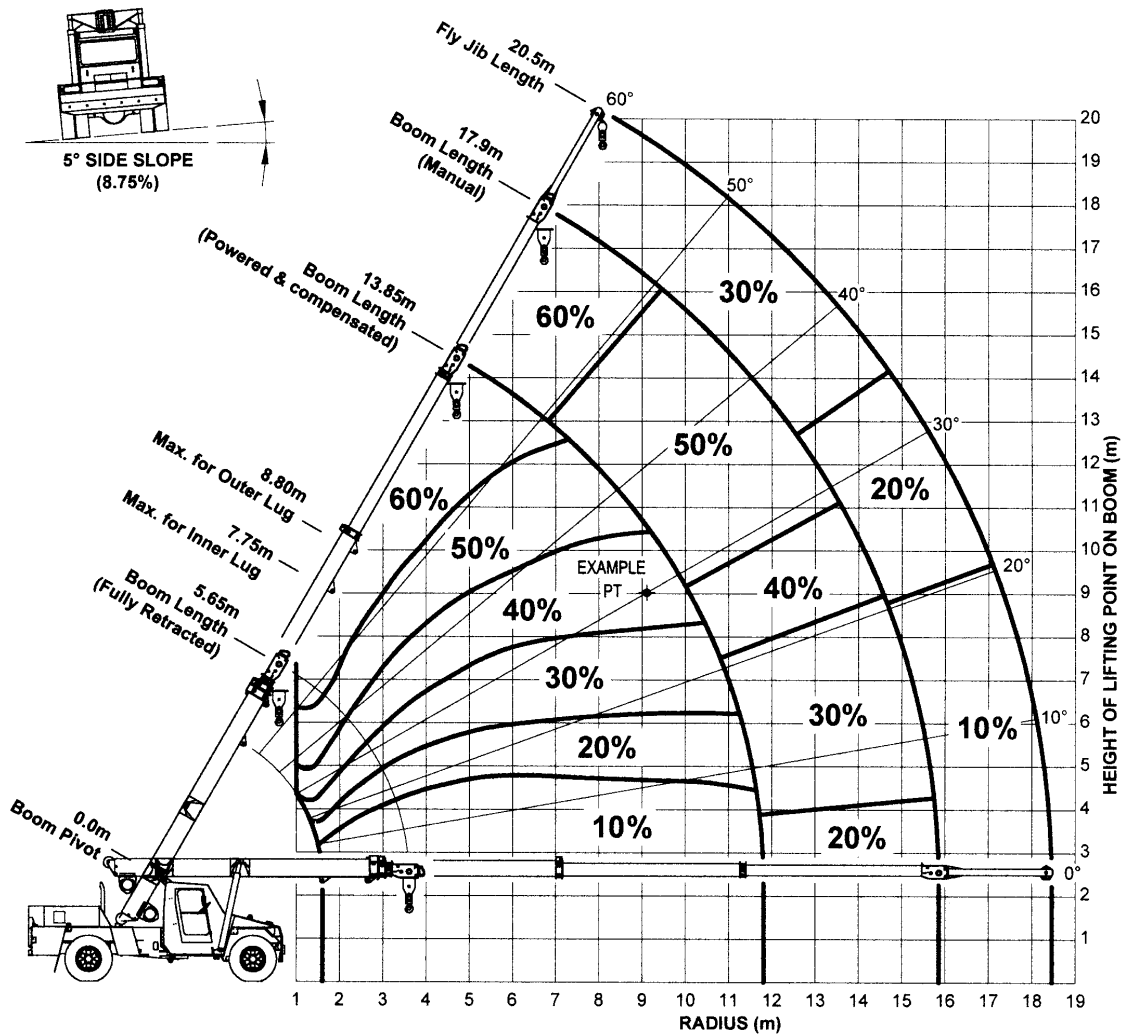

Figure 1: Percentage Deration Chart for AT-15
- **REDUCE** the rated capacity of the crane by the percentage value for the crane as shown in figure 1 for operating on side slopes up to 5° (8.75% gradient) - **REMEMBER** the crane's load indicator will **NOT** automatically derate the rated capacity.
Percentage Deration: 40 % (From Figure 1: Percentage Deration Chart)